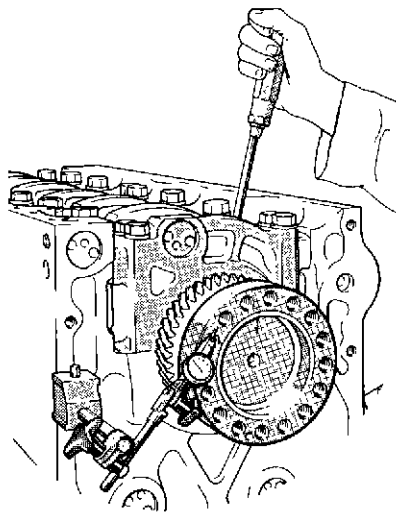

Fig. 6 Crankshaft end float
- 15 Mount a magnetic based dial test indicator (D.T.I.) on the end face of the crankcase, with the button resting on the end of the crankshaft as shown in figure 6. Lever the shaft backwards and forwards against the thrust washers and check the total readings on the D.T.I.. Permissible end float is 0,10 to 0,30 mm (0.004 to 0.012 inch).